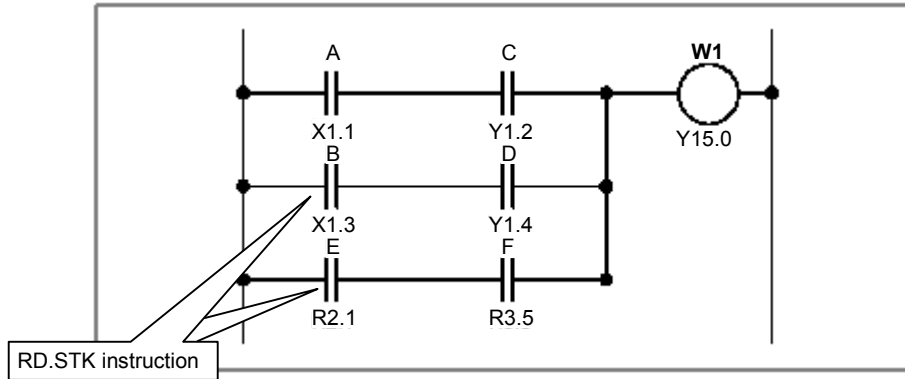

Fig. 4.1.10
- (1) The RD.STK instruction stacks the interim result of a logical operation. Use this instruction when the signal you specify is contact A (-| |-). After shifting the register content one bit to the left, the instruction sets the status of the signal at the specified address in the ST0 bit.
- (2) For examples of how the RD.STK instruction is used, see Fig. 4.1.10 and Table 4.1.10.